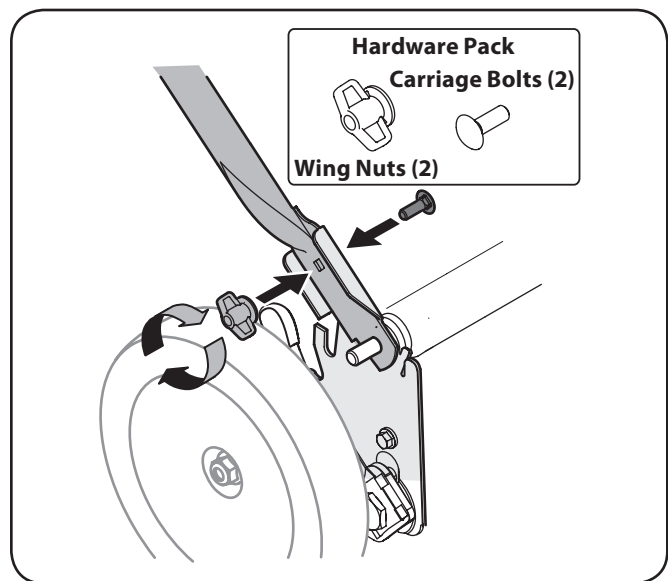

Figure 3-2
2. Insert a carriage bolt from the hardware pack into the upper hole on the handle mounting bracket. Secure with one plastic wing nut, also included in the hardware pack. Repeat on other side with remaining items from hardware pack. See Fig. 3-2.